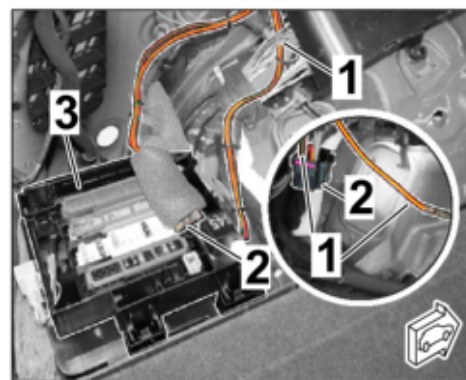

Figure 11
- 2.3.5 Route RD/GN and RD/YE lines to connector B (preparation). (⇒ **Figure 11**).
Release connector B, connect lines RD/GN and RD/YE as described in Step 2.3.2 ⇒ **Figure 11 -Magnifier-**.